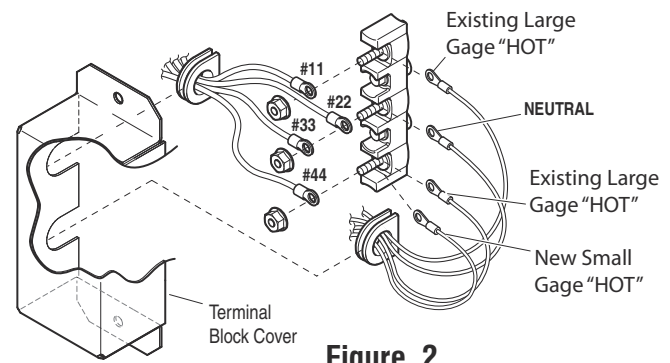

Figure 2
5. Take off Terminal Block Cover on engine divider panel by removing upper and lower screws. (Figure 2)
12. Place the #22, #33 and **NEUTRAL** wire from the Neutral Bus Bar onto the center terminal post and tighten the nut. (Figure 2)